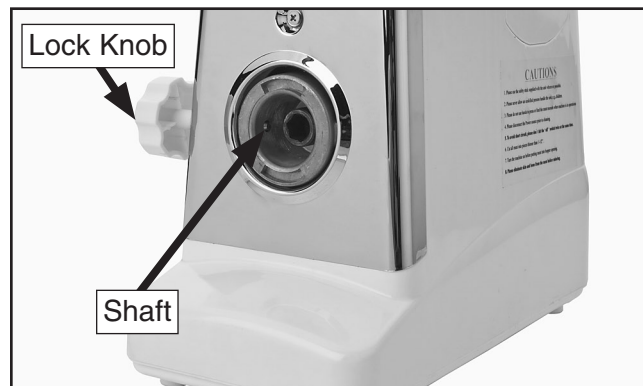

Figure 3. Lock knob shaft flush with inside of grinder.
2. Place the meat grinder on a level surface, and adjust the lock knob shaft so it is flush with the inside of the meat grinder, as shown in **Figure 3**.